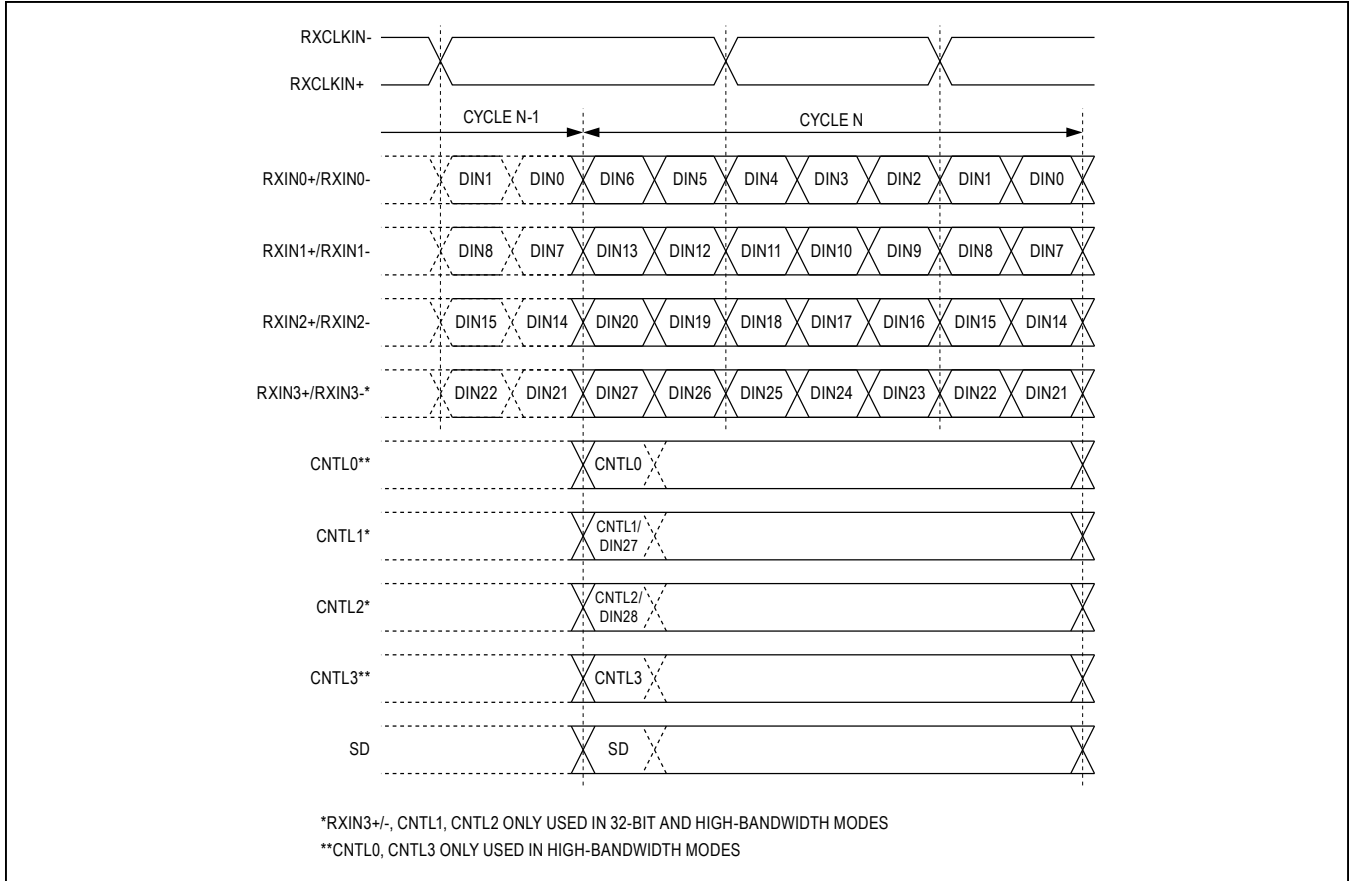
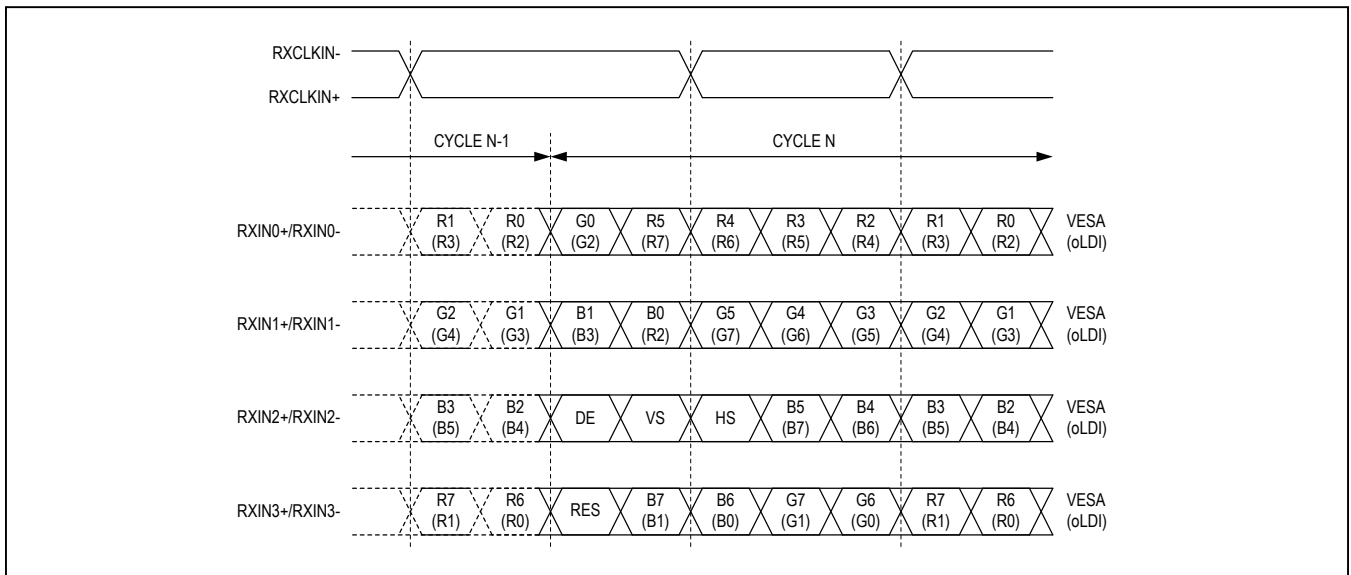

Figure 15. LVDS Input Timing
Figure 16. LVDS Clock and Bit Assignment
**Table 3. Input Map (See Figure 15, Figure 16)**